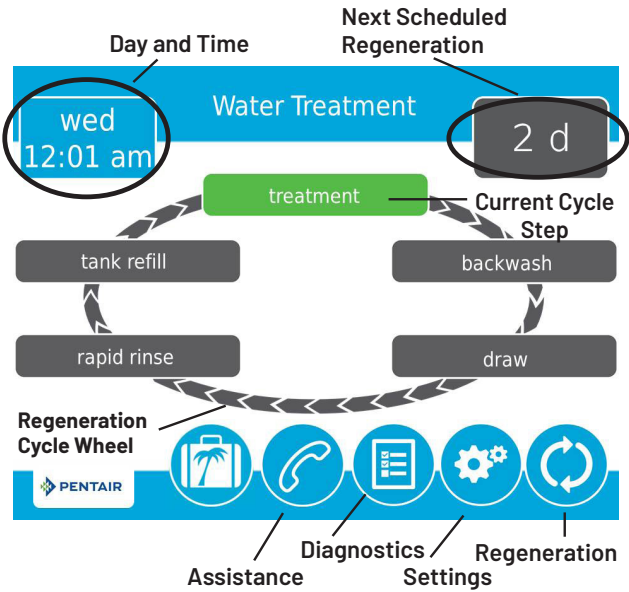

Figure 8: Home Screen
5. After pressing , the Home screen (Figure 8) appears.